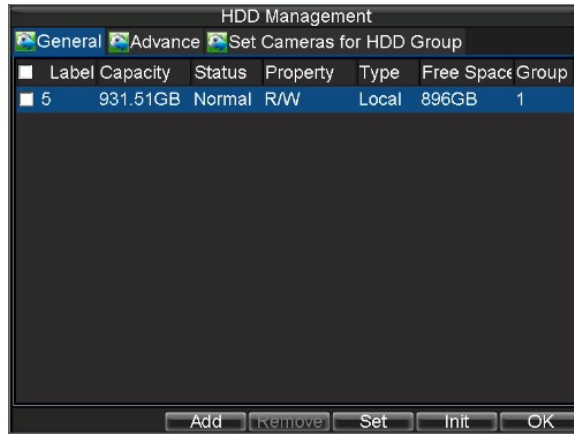

Figure 2. HDD Management Menu
1. Enter the HDD Management menu, shown in Figure 2 by clicking Menu > HDD.